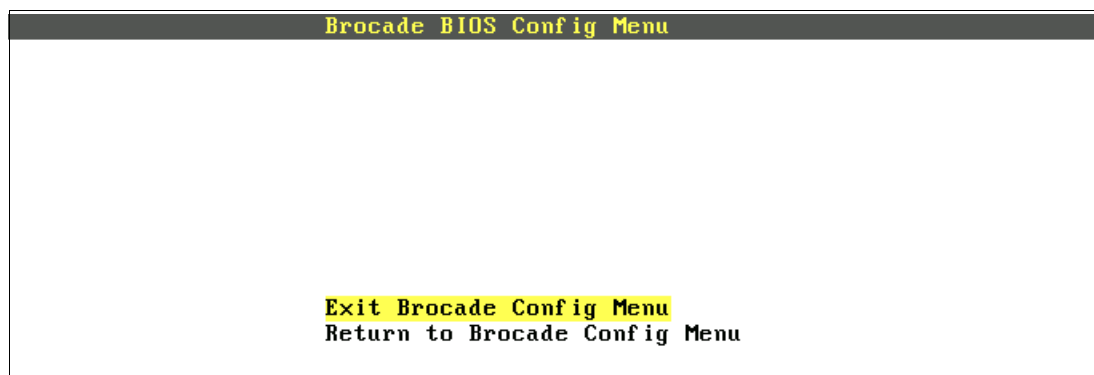

Figure 9-212 Exiting the Brocade Config Menu panel
17. As shown in Figure 9-212, select **Exit Brocade Config Menu**.